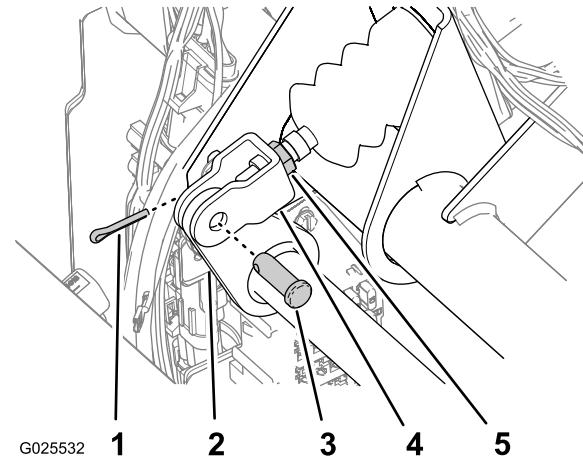

Figure 76
2. Remove the cotter pin and clevis pin securing the master cylinder yoke to the brake-pedal pivot (Figure 76).
4. Loosen the jam nuts securing the yoke to the master cylinder shaft (Figure 76).
5. Adjust the yoke until its holes align with the hole in the brake-pedal pivot (Figure 76).
6. Secure the yoke to the pedal pivot with the clevis pin and cotter pin (Figure 76).
7. Tighten the jam nut securing the yoke to the master cylinder shaft (Figure 76).